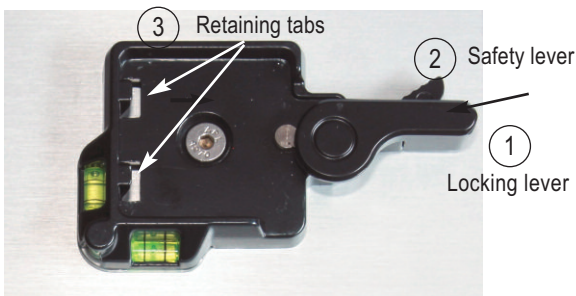

Figure 15 Media bracket socket on the top side of the device
- Insert the media bracket such that its lower part locks with the retaining tabs (3) (Figure 15).